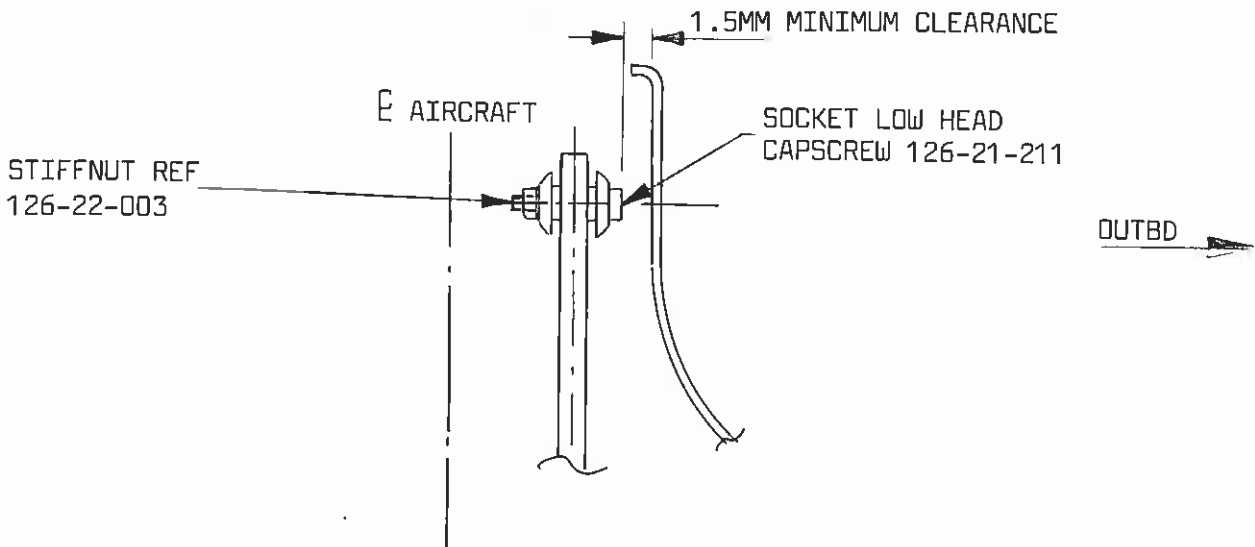

FIG 2
- iii. Obtain new bolt 126-21-211 and assemble with head to R.H. side, Ref Fig. 2.